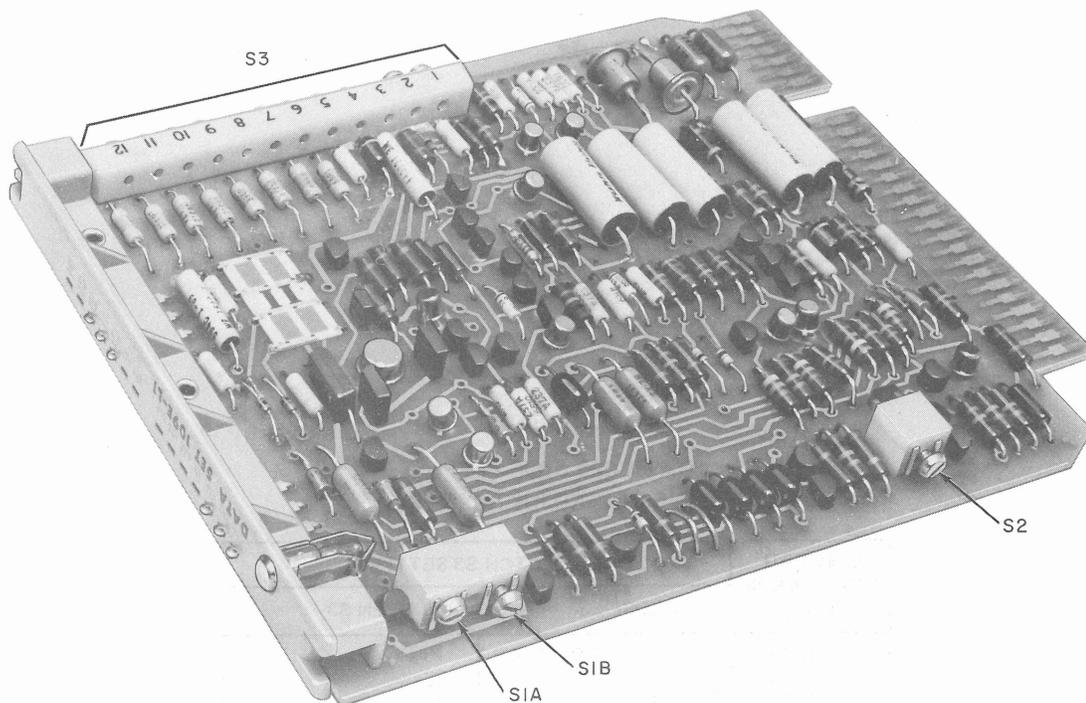

Fig. 11—Data Set 109E-Type—Location of Option and Line Pad Screw Switches
8. ADJUSTMENT OF DATA SET 109E-TYPE (FIG. 11)